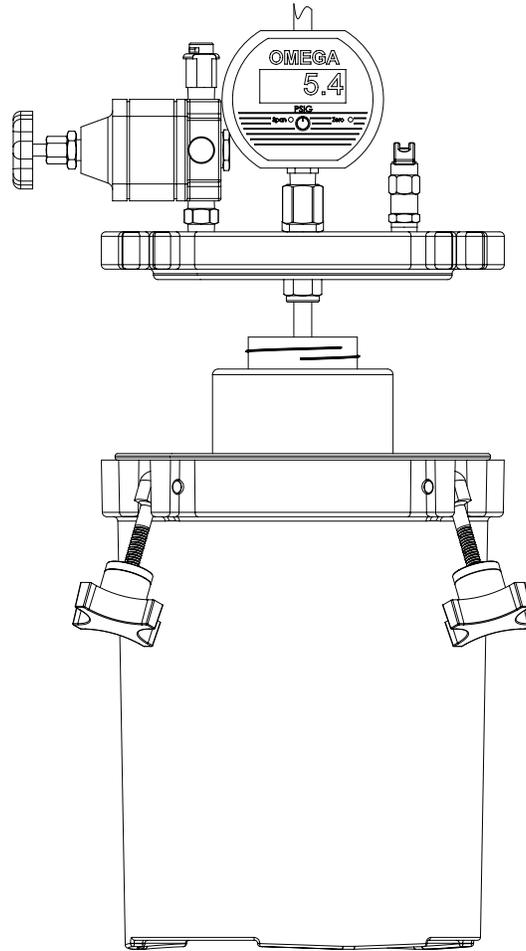

Figure 5
7. Install the cover. If you are using a manufacturer's bottle, ensure the feed tube is inserted into the bottle. (Figure 5).